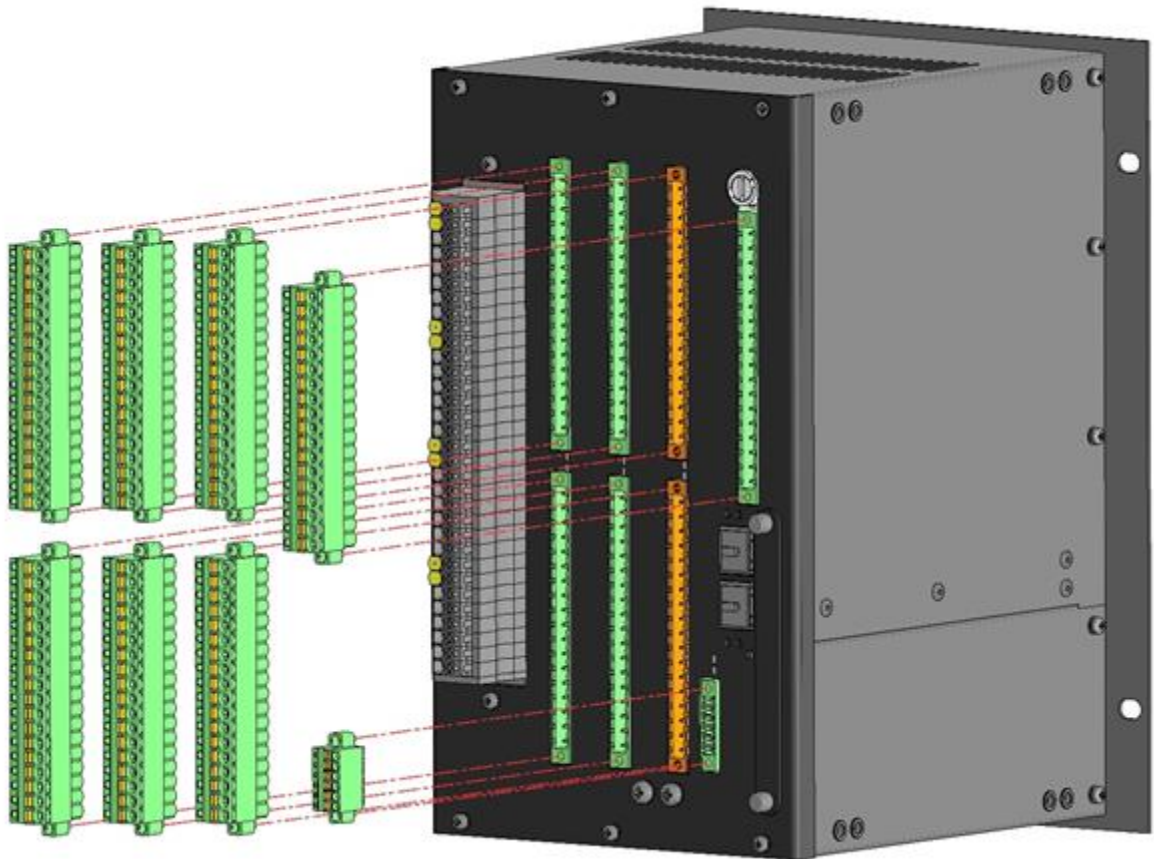

Figure 118 – Location of screws securing terminal blocks
13.5.1.1 Disconnect all terminal blocks and plug connector(s) of the device (including installation) from the plugs, having previously unscrewed the standard connection screws (shown in figure 118 with red dash-dotted lines).